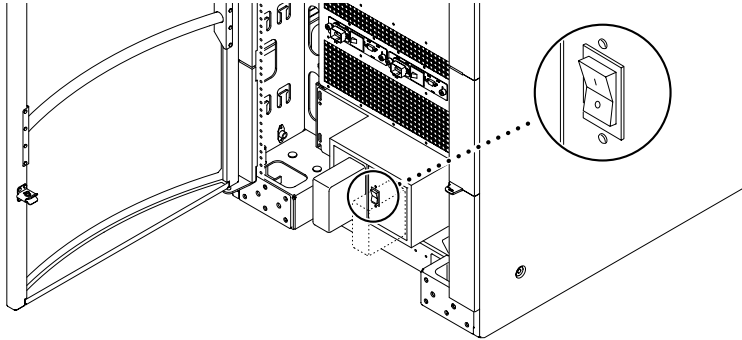

FIGURE 2-7 RTS AC Power Switch on the Sun Fire 6800 System
1. Turn off each redundant transfer switch (RTS) on both the front and rear of the system (FIGURE 2-7).